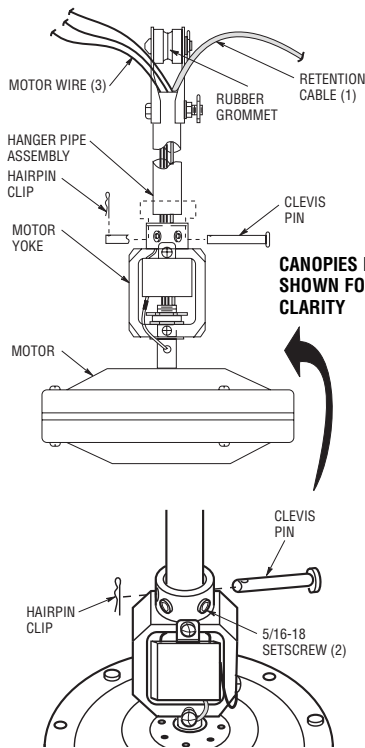

Figure 2
- 2. Pass the motor wires and retention cable through the hanger pipe assembly and seat the hanger pipe in the motor yoke. (See Figure 2.)
- 3. Align the clevis pin holes in the hanger pipe with the holes in the motor yoke. Install the clevis pin and secure with the hairpin clip (Figure 2). The clevis pin must go through the holes in the motor yoke and the holes in the hanger pipe. Push the straight leg of the hairpin clip through the hole near the end of the clevis pin until the curved portion of the hairpin clip snaps around the clevis pin. The hairpin clip must be properly installed to prevent the clevis pin from working loose. Pull on the rubber grommet to make sure the clevis pin is properly installed.
- 4. Install and securely tighten the two 5/16-18 setscrews in the motor yoke against the hanger pipe using the allen wrench supplied. (Figure 2.)